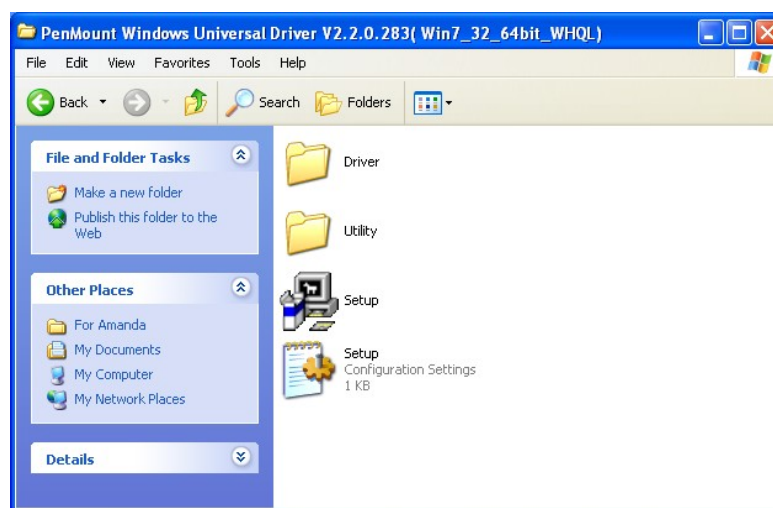

Figure 7-1: Setup Icon
Step 3: Select the **Touch Screen** option in the menu of driver CD. The directory in **Figure 7-1** appears.
Step 4: Double click the setup icon in **Figure 7-1**.